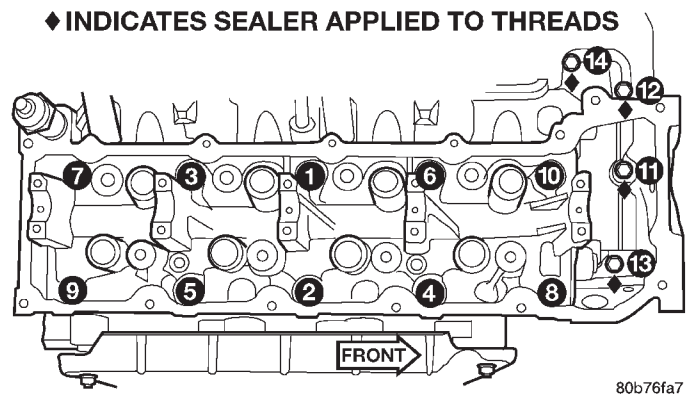

Fig. 48 Cylinder Head Tightening Sequence
(6) Tighten the bolts in sequence (Fig. 48) using the following steps and torque values: